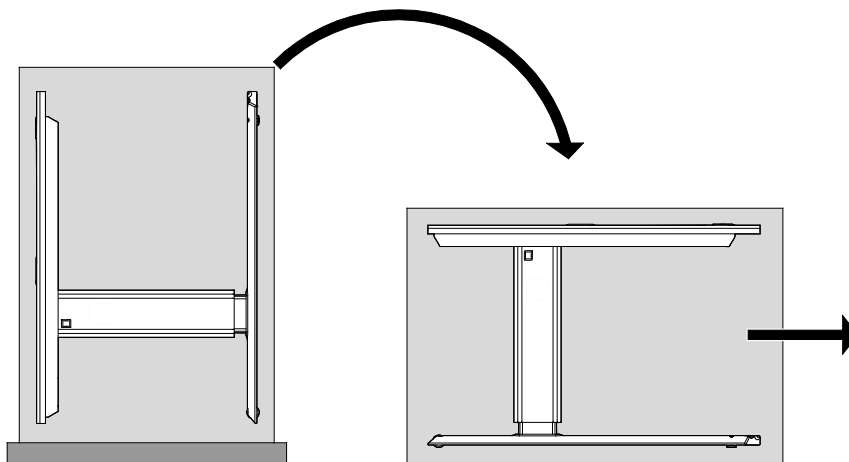

Fig. 3 Unpacking the instrument table
- Remove the table along with its packaging from the pallet and rotate it by 90° so that the table mount is at the bottom (see Fig. 3).